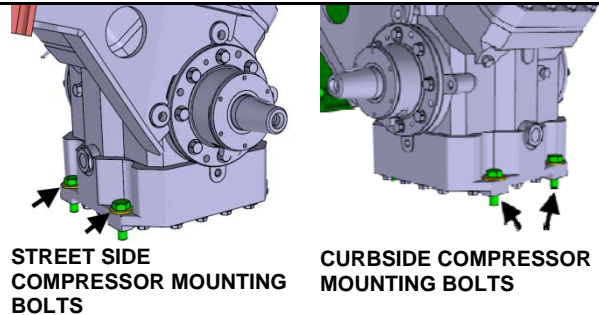

FIGURE 26
34. If bolts **C** & **E** (see two previous steps) are difficult to align in the hole, the compressor may be moved. Loosen the compressor mounting bolts (4x) at the base (see FIGURE 26)